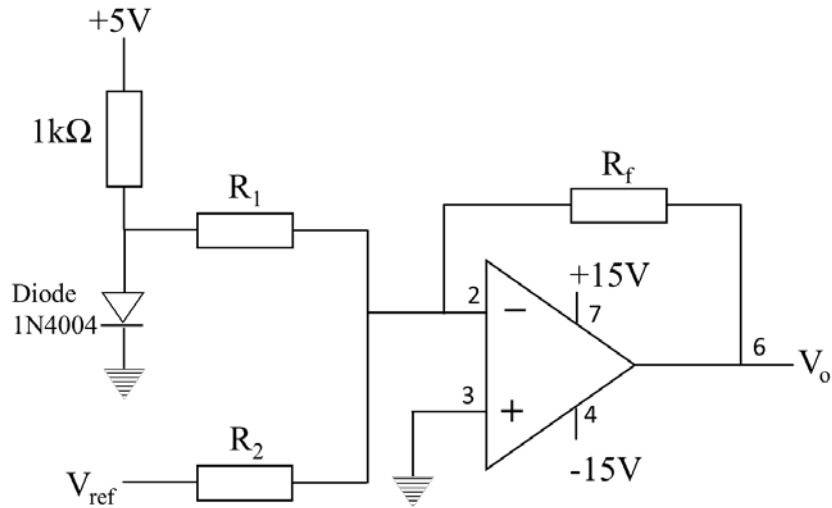

Figure 3-2 Temperature sensing amplifier circuit
3. Assume that the diode in the circuit of Figure 3-2 is a silicon diode with a knee voltage that varies linearly and inversely with temperature at the rate of 2.5 mV/°C, and has a knee voltage of 0.6 V at 20 °C. Determine values for R_f , R_1 , R_2 , and V_{ref} that will cause the output voltage to vary linearly from 0 V to 5 V as the temperature varies from 20 °C to 100 °C. If needed, V_{ref} can be a negative voltage. Circuits such as this are used in temperature sensing applications; they provide a suitable analog input for A/D converters.